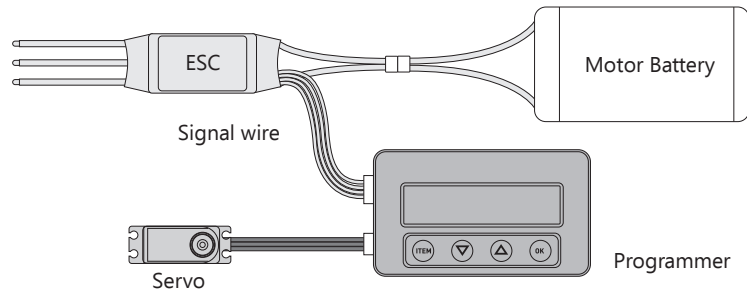

Figure 9
1. Connect the ESC control lead to the 4-pin port, and the servo into the 3-pin port of the Programmer as shown below in Figure 9.